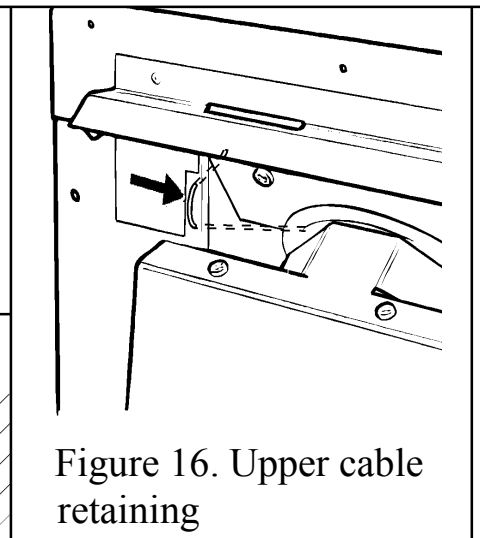

Figure 16. Upper cable retaining
4. The convection box has two holes at each side of the convected air opening. Insert one end of each cable (one cable each side) from the back through the lower of the two holes and return the end through the upper of the holes. See figure 16. Give the cables a pull so that they grip against the convection box flanges.